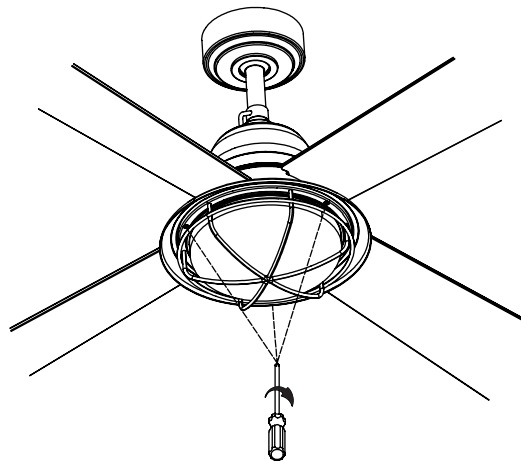

Fig. 22
Step 4. Align the screw holes on the light plate assembly and acrylic shade assembly, secure by tighten with three screws found on hardware package. (Fig. 22)